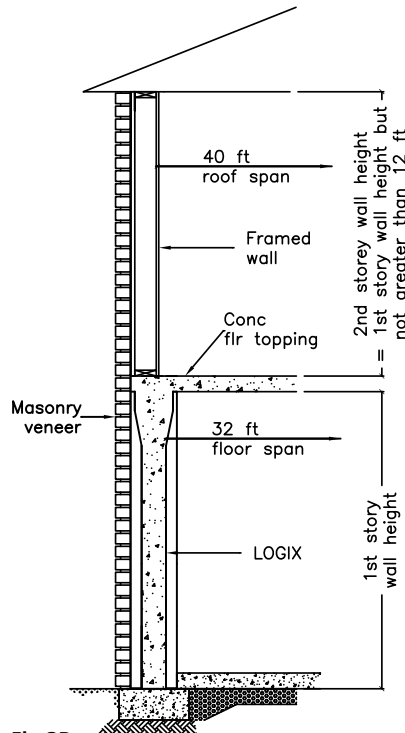
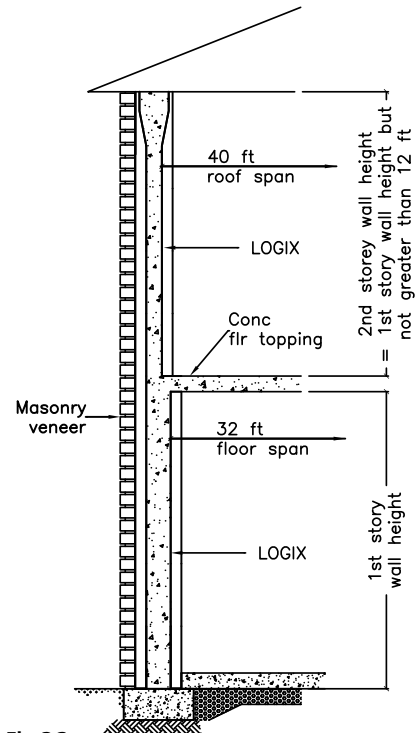

Fig 3B
Fig 3C
- One storey LOGIX supporting 2nd storey wood frame plus wood roof frame (Fig. 3B)
- Two storey LOGIX supporting wood roof frame (Fig. 3C)
- Table shall be read in conjunction with Fig 3A, Fig 3B, Fig 3C, and section "Notes For Tables 3A-H to 3B-H - Logix Above-Grade Tables With Helix Reinforcement"